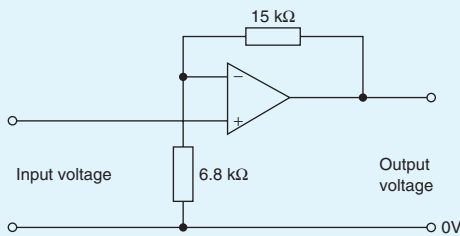

Figure 19.18
1. If the input voltage for the op amp shown in Fig. 19.18, is -0.5 V , determine (a) the voltage gain (b) the output voltage